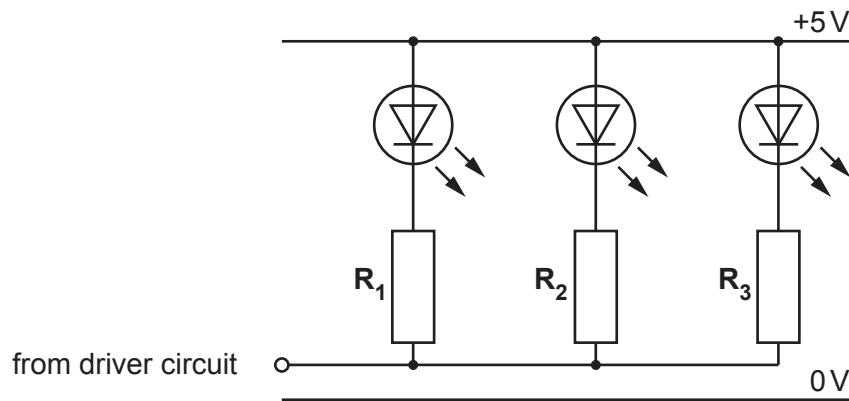

Fig. 12.3
- (v) Fig. 12.3 shows the output circuit for the cycle light.